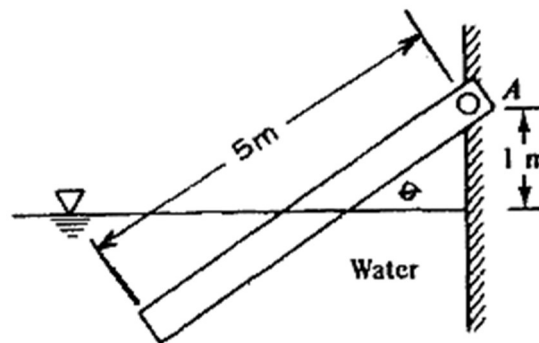

Fig. Q3A
- 3A. A wooden beam of specific gravity 0.64 and dimensions  $140 \text{ mm} \times 140 \text{ mm} \times 5 \text{ m}$  and is hinged at A, as shown in Fig. Q3A. At what angle  $\theta$  will the beam float in water?